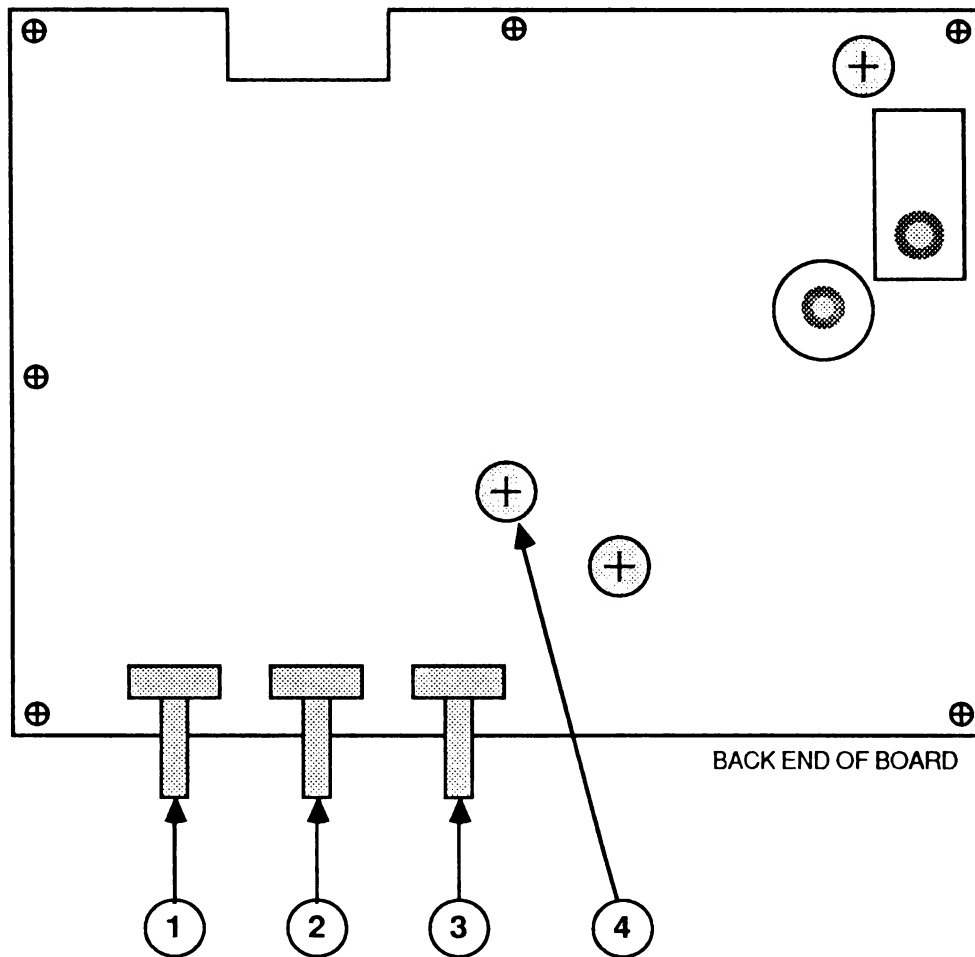

**FIGURE 12**
1. Set the vertical hold control R302 (see Figure 12, #1) near the mechanical center of its rotation. This should lock the picture on the screen and prevent any rolling. ||
2. **Linearity:** If the vertical linearity is off, adjust R307 (see Figure 12, #4) until the best linearity is found. Compare top and bottom characters or grid boxes and try to get them even. It's possible to reach the end of the adjustment range of the pot and find that the linearity is still not correct. That's because the height adjustment can affect the linearity. If this happens, leave the pot at the end of its range and proceed to step 3. ||
3. **Height:** If the vertical height of the image is incorrect, adjust R305 (see Figure 12, #2) until the desired height is obtained. A good method is as follows: ||
- b) Turn the brightness control R506 (see Figure 12, #3) clockwise until you can see black edges at the top and bottom of the screen. If you don't see black edges on the top and bottom, turn the height pot R305 counterclockwise until the pattern is squeezed and the black area appears. If the pattern becomes blurred, then the brightness control is turned too far. ||